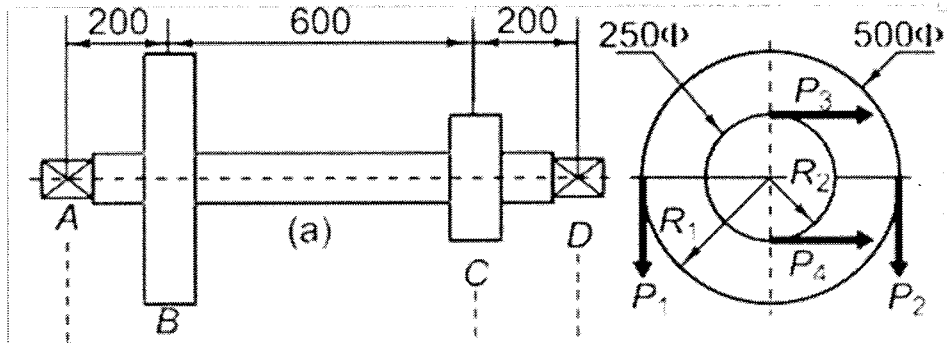

Fig. 1
4. Fig.1 shows a transmission shaft carrying two pulleys B and C supported on bearings A and D. Power is supplied to the shaft by means of a vertical belt on pulley B and power is taken off from pulley C with horizontal belting. The maximum tension in the belt on the pulley B is 2.5 kN. The angle of contact for both the pulleys are 180° and the coeff. of friction is 0.24. Considering a yield strength of 400 N/mm^2 for the shaft material and a factor of safety of 3, determine the shaft diameter based on maximum shear stress theory basis. Assume that the shaft is applied with sudden loads with minor shocks.